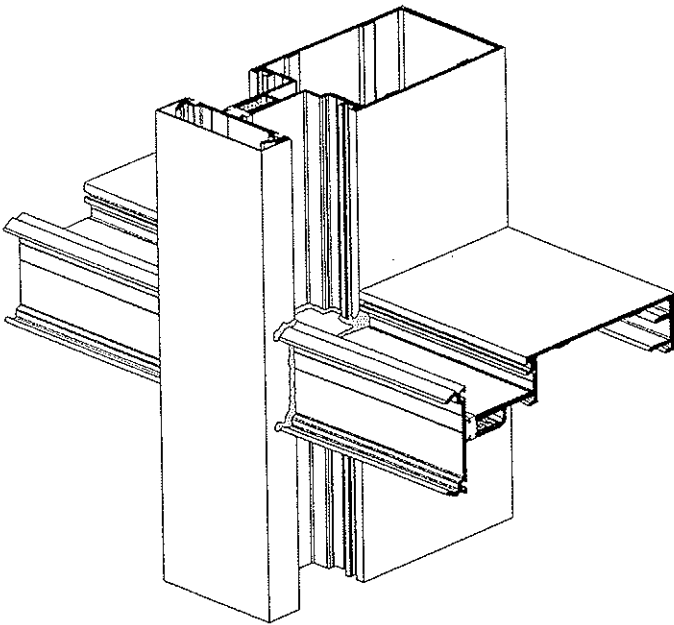

FIGURE 32
4. Seal horizontal pressure plates to vertical snap cover. See figure 32.